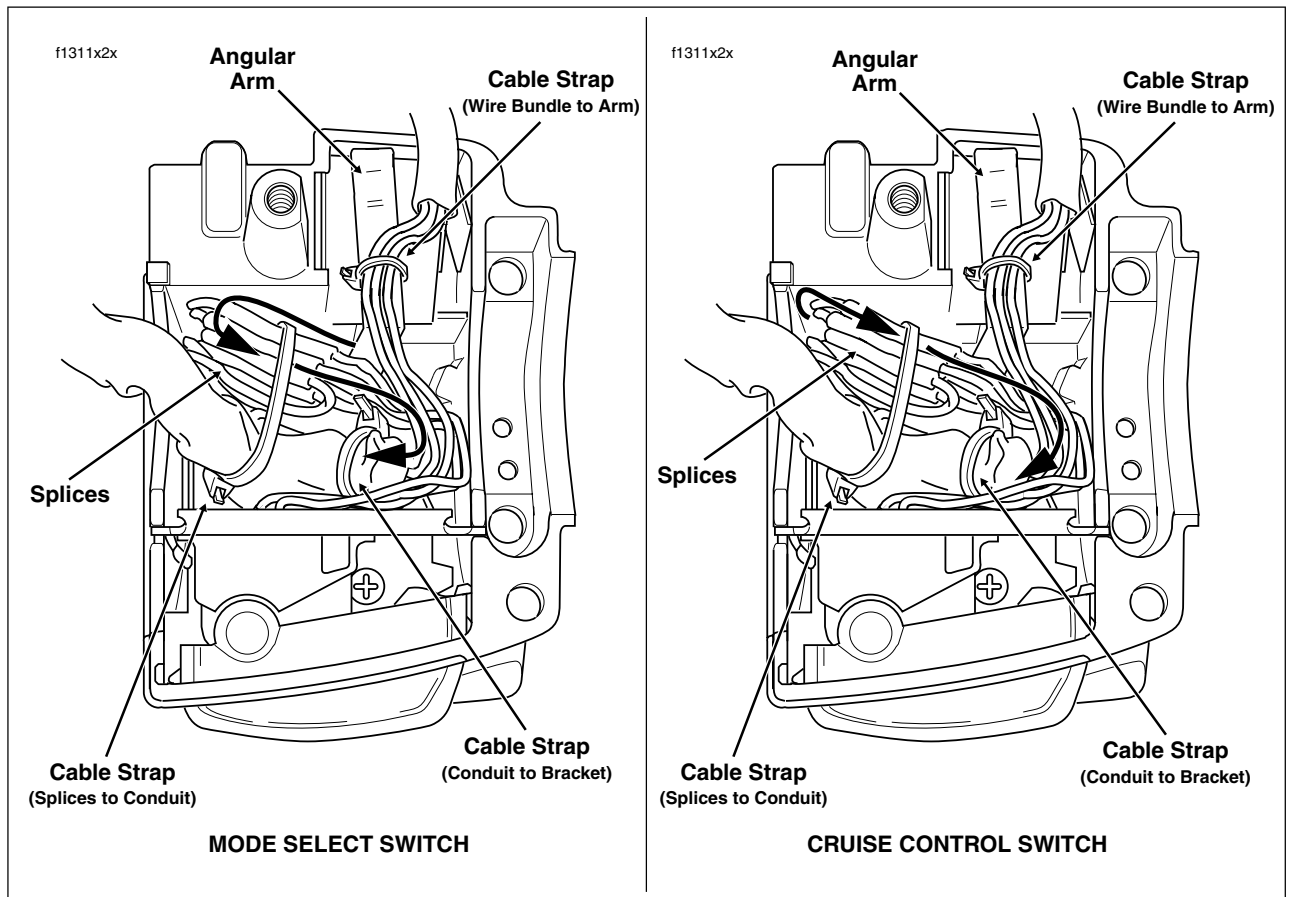

Figure 8-102. Lower Right Handlebar Switch Housing (With Splices) - Classic/Ultra Models
4. Loop switch wires so that spliced lengths are positioned as shown in Figure 8-102.